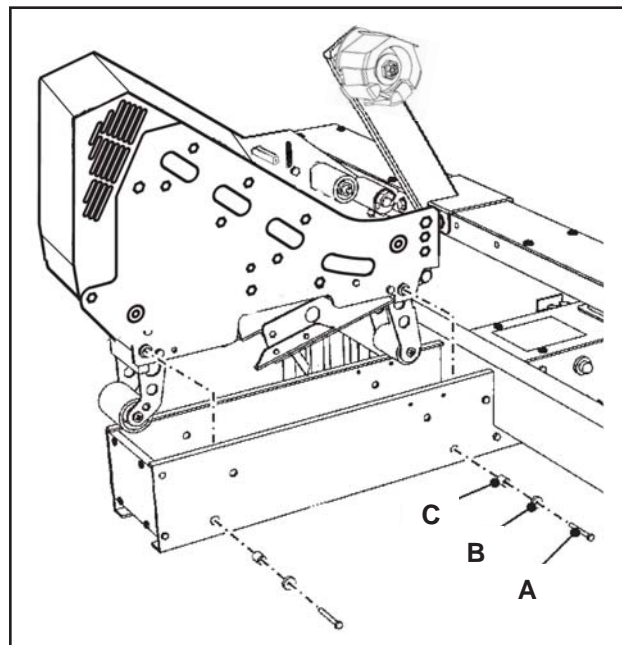

Figure 11-1 Upper Taping Head Mounting
1. Remove upper taping head. Loosen and remove four (each) M6 x 25 flat head screws (A), special washers (B) and spacers (C) that fasten head to upper assembly as shown in **Figure 11-1**.